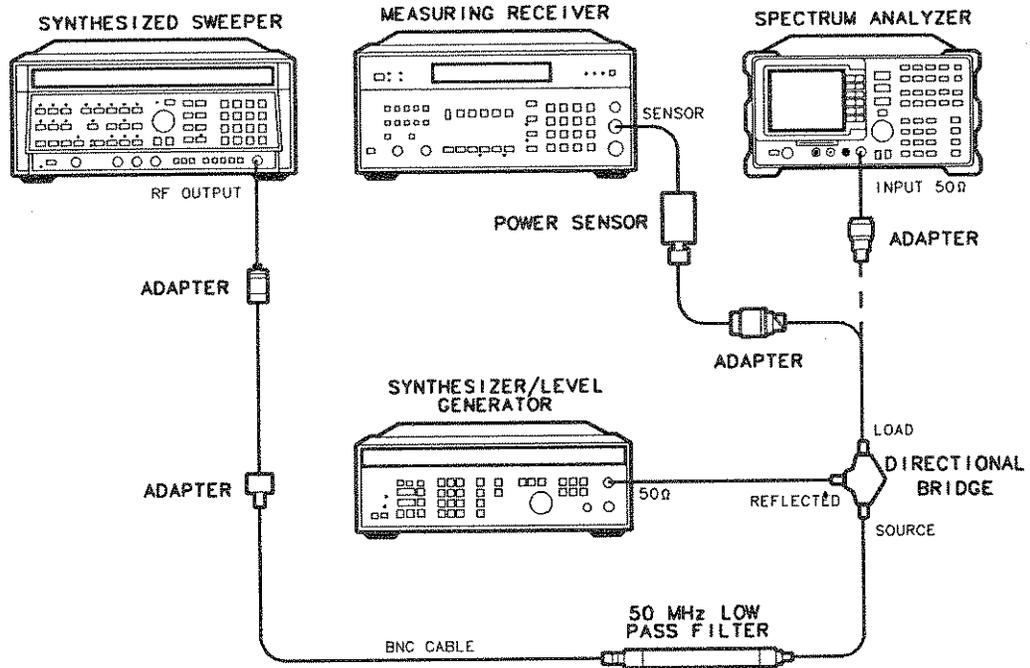

Figure 3-19. Third Order Intermodulation Distortion Test Setup
9. Connect the equipment as shown in Figure 3-19 with the output of the directional bridge connected to the power sensor.